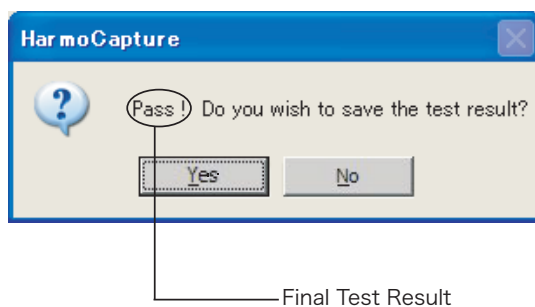

Fig.3-9 Display example of pass result
- 1 When the test is completed, the message “Do you wish to save the test result?” shown in Fig.3-9 is displayed. Click the **Yes** button.